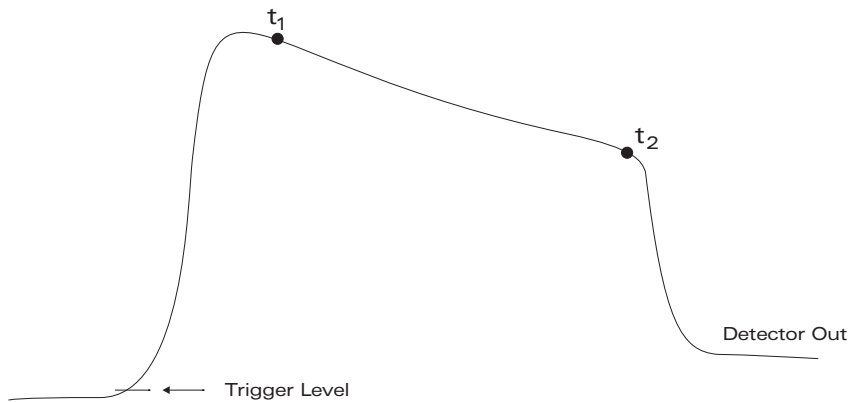

Figure 2-15: SD Setting for Measuring Pulse Droop
5. Set the sample delay (DLY_A) to the t_1 position just after the rising edge as shown in Figure 2-15.